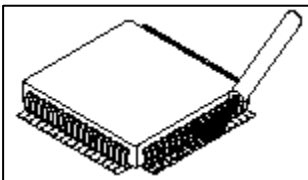

Figure 3: Apply Flux.
5. Apply flux to remaining lead/land areas of the row to be soldered. (See Figure 3.)